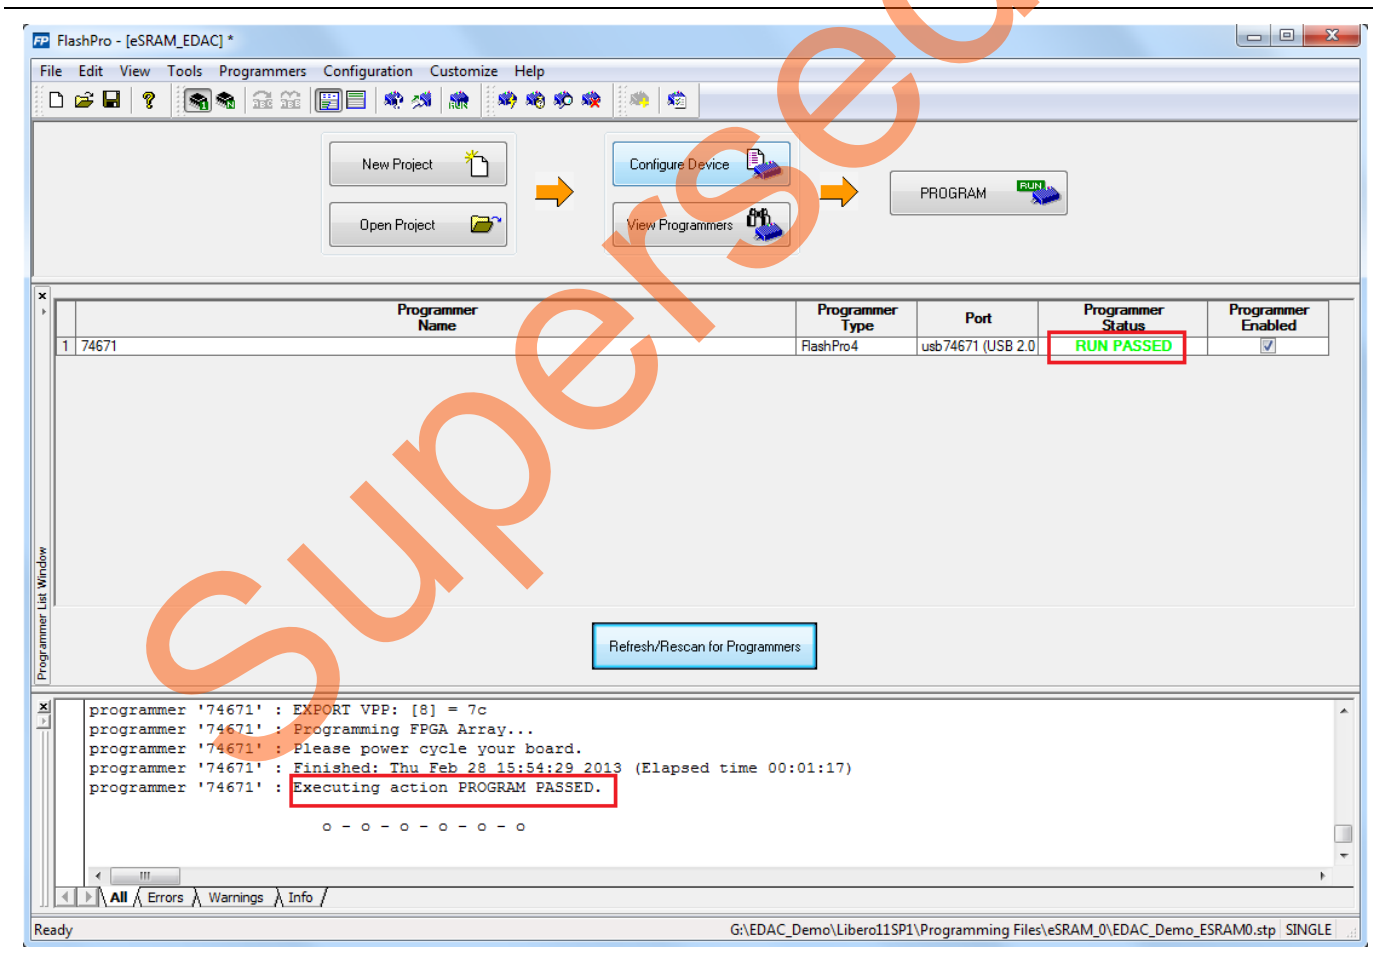

Figure 6. FlashPro Programming Window
2. Program the SmarFusion2 device with the programming file provided in the design files (\ProgrammingFiles\eSRAM_0\EDAC_Demo_eSRAM0.stp or \ProgrammingFiles\eSRAM_1\EDAC_Demo_eSRAM1.stp) using FlashPro design software, as shown in Figure 6.